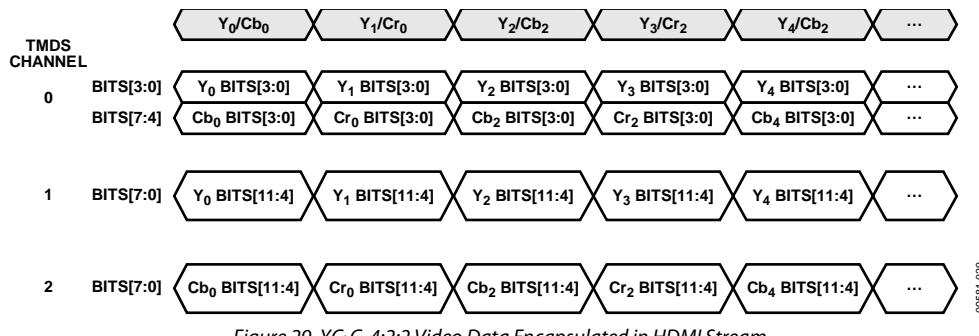
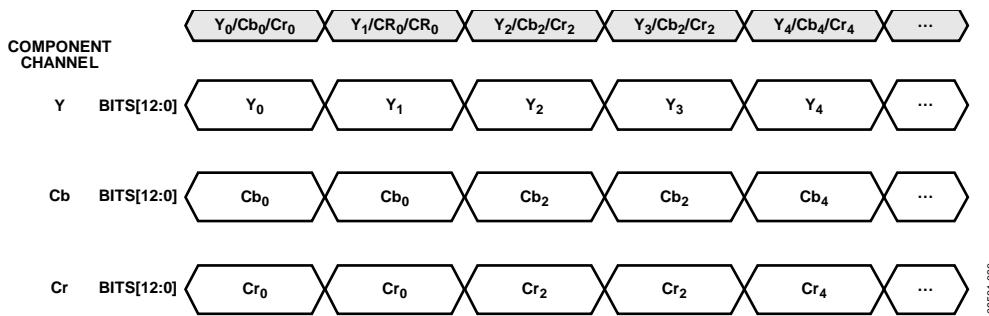

Figure 29. YCbCr 4:2:2 Video Data Encapsulated in HDMI Stream
Figure 30. Video Stream Output by HDMI Core for YCbCr 4:2:2 Input and UP_CONVERSION = 0
- If the HDMI section receives a stream with video encoded in a 4:2:2 format (refer to Figure 29), the HDMI section upconverts the video data into a 4:4:4 format, according to the **UP_CONVERSION_MODE** bit, and passes the upconverted video data to the DPP section (refer to Figure 30).